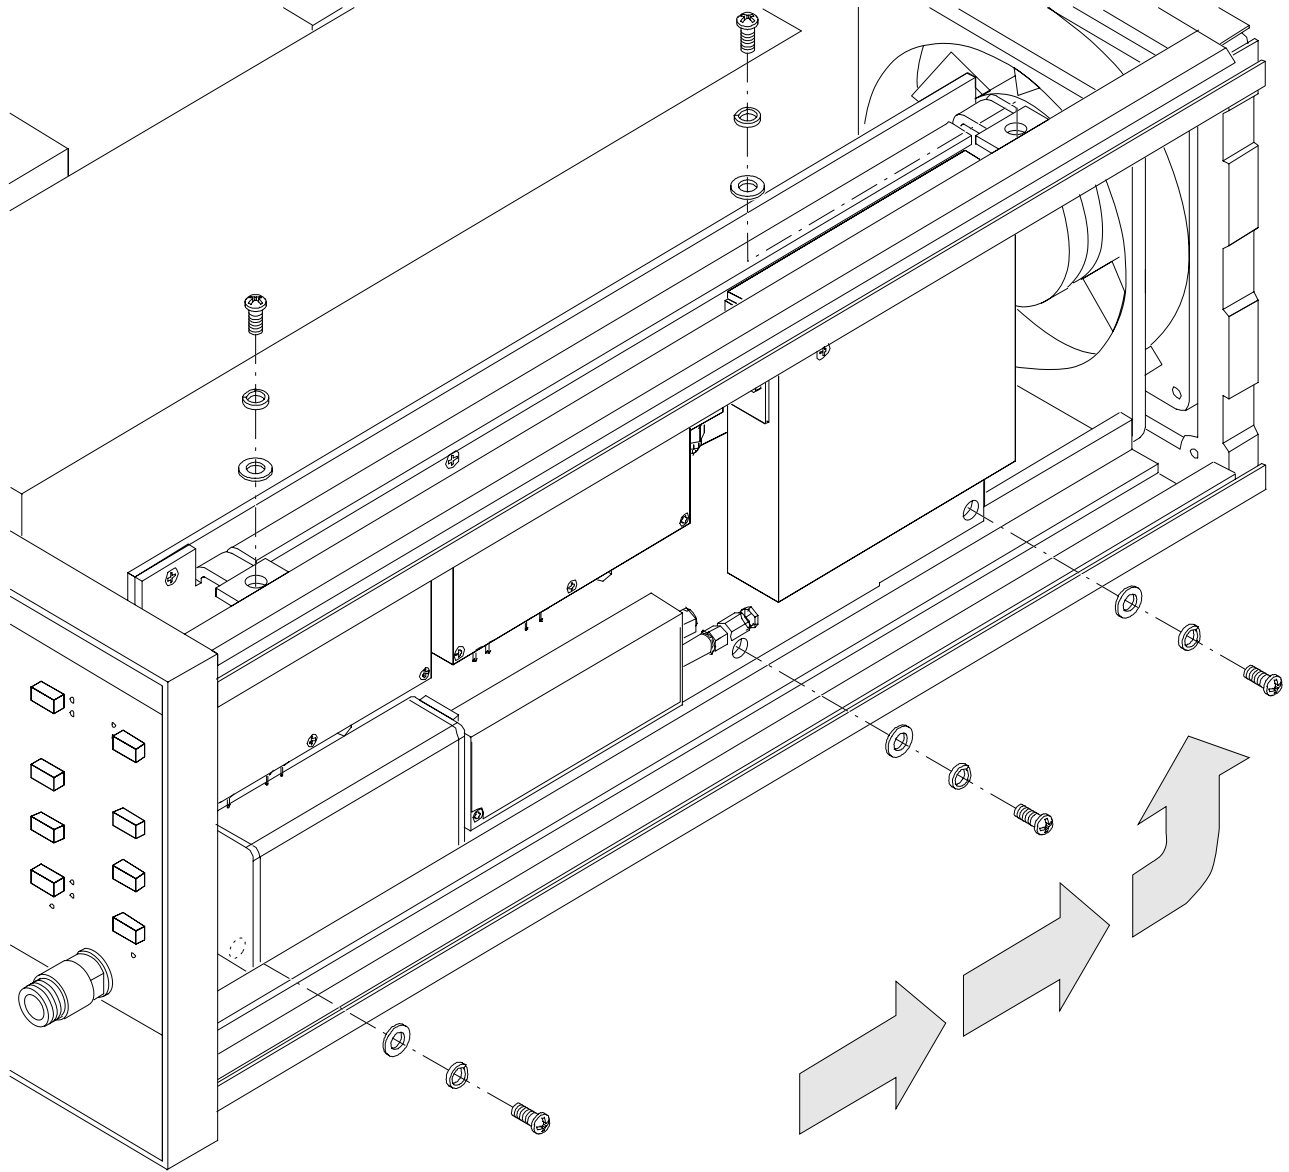

Figure 5-5. RF Deck Removal/Replacement
- Step 2** Using a Phillips screwdriver, remove the five screws and associated washers that secure the RF deck to the unit chassis (Figure 5-5). Set the screws and washers aside.